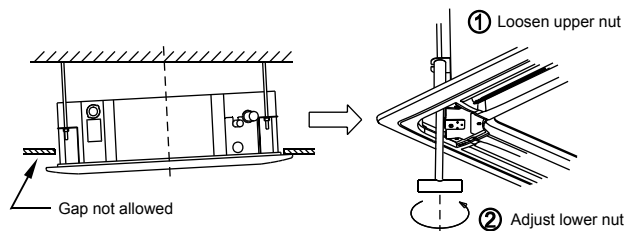

Fig.5-15
- If the gap between the panel and ceiling still exists after fastening the screws, the height of the indoor unit should be modified again. (Refer to Fig.5-15-left)